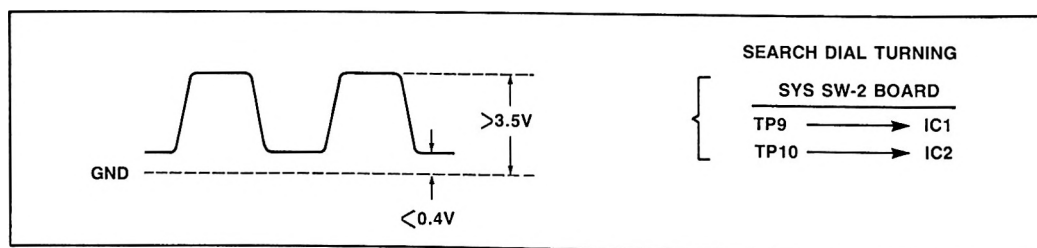

Figure 2
- When IC1 or IC2 has been replaced (and R5 or R6 replaced), the specification in Figure 2 must be met.